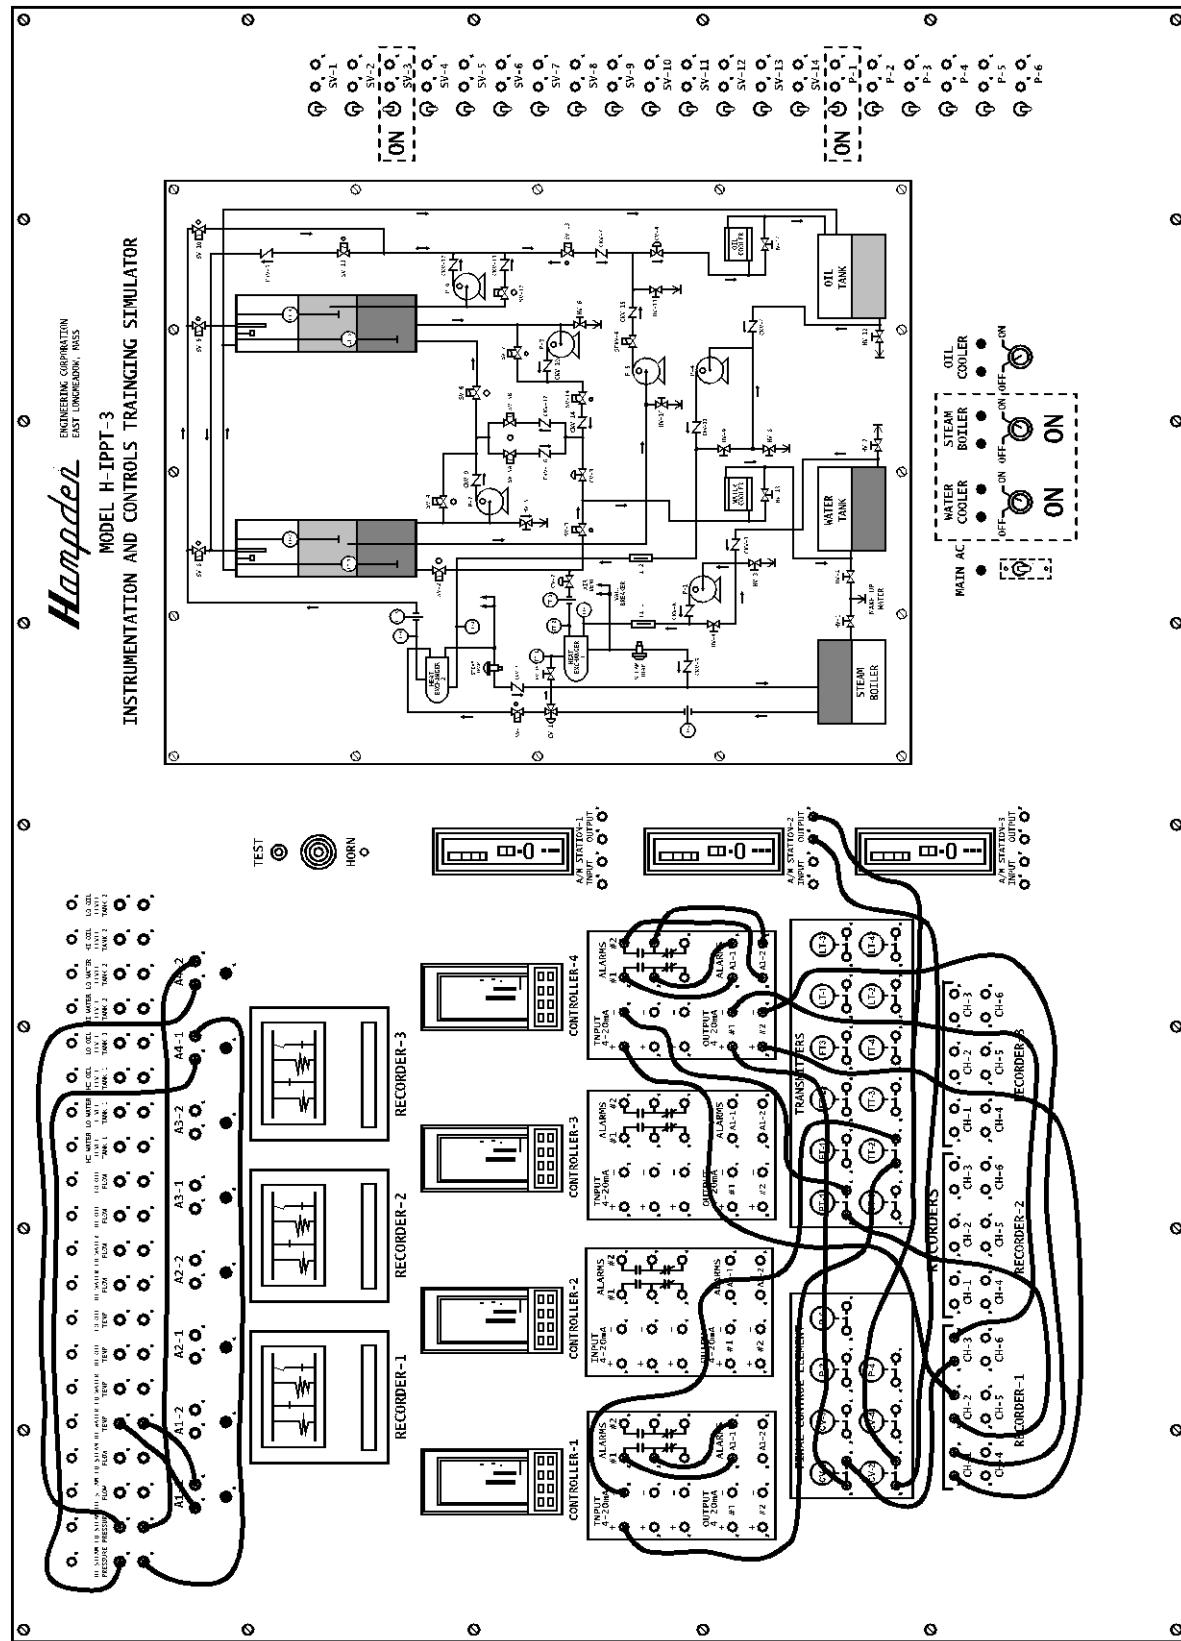

Figure 9
6. Interconnect the process control equipment per Figure 9.